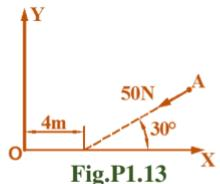

Fig.P1.13
10. A force of 50N is acting at a point  $A$  as shown in fig.P1.13. Determine the moment of this force about  $O$ .